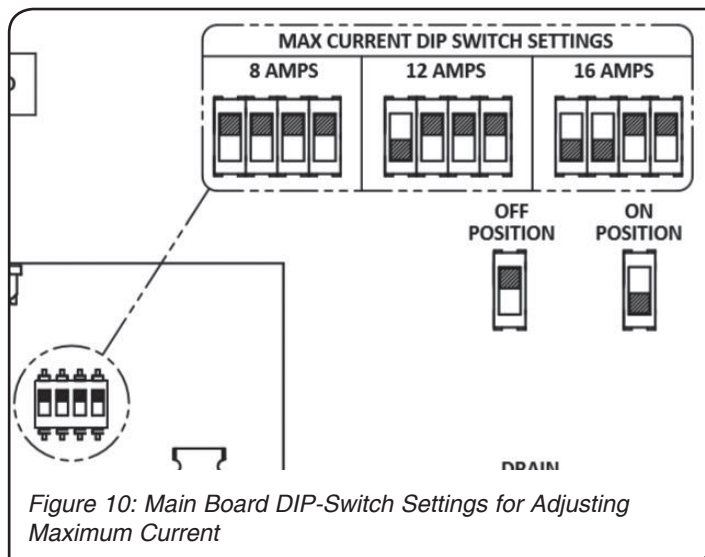

Figure 10: Main Board DIP-Switch Settings for Adjusting Maximum Current
The user can select between 8, 12, and 16 amps as the rated current of the unit by toggling the DIP-switches located on the humidifier control board, shown in Figure 10. The max current setting corresponds directly to the maximum steam output as shown in Table 7. Refer to the Sizing Section of this document to determine required steam output of the humidifier.
Note: The output rate may be easily configured after installation by changing the Max Current Setting (see wiring diagram *Figures 10 & 14* for explanation).
3. Set the maximum current setting by adjusting the DIP-Switches shown in *Figures 10 & 14*.